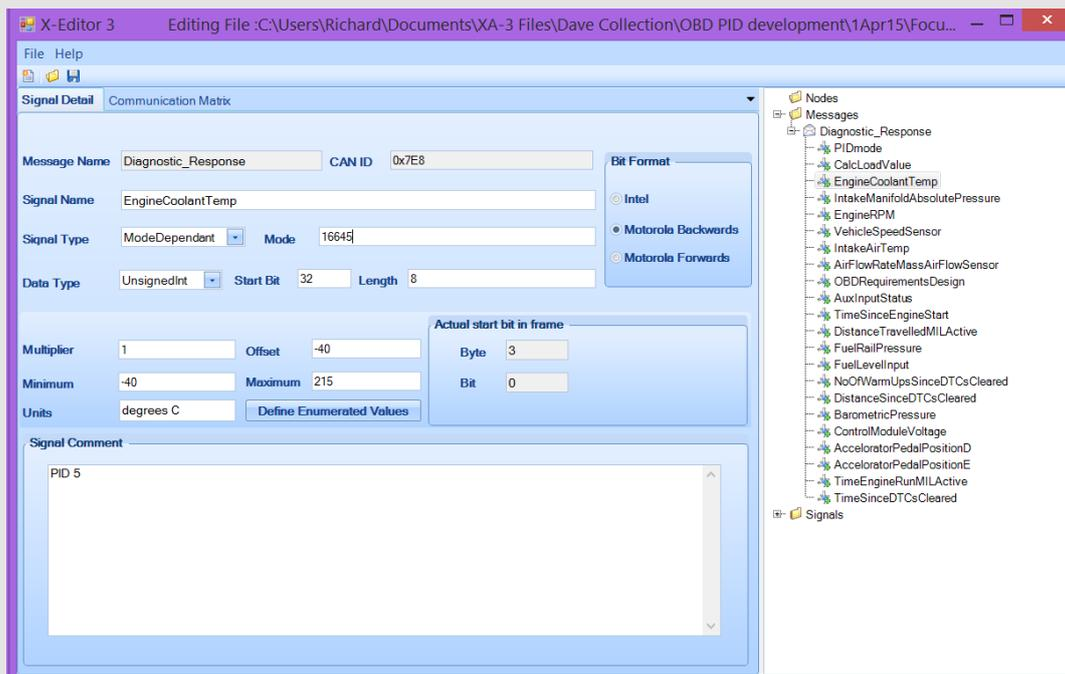

Figure 8. Configuration for interpreting PID 05 (Engine coolant temperature)
Now, looking at our example of PID 05 (Engine coolant temperature), the configuration is illustrated in Figure 8. This illustrates how to build a Signals/CANdb file to obtain the “Live Data” of the PIDs supported (CompletePIDs). Here you see that PID 05 signal is set to Mode Dependant with a Mode value of 16645 decimal (41 05 Hex), you can also see the Offset (-40), the multiplier (1), Min and Max values (-40,215), the start bit (32) and Length (8). These values can be obtained via ISO-15031-5.